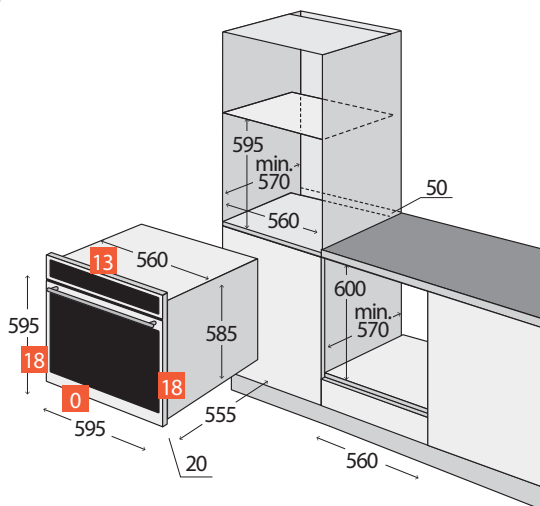

Fig. 5
- The unit should be installed in standardised kitchen furniture designed for built-in appliances or in properly adapted furniture of dimensions according to Fig. 5.
- The appliance may be located either under a kitchen cabinet or in a stand-alone cabinet (Fig. 5).
2. For the sake of efficient air circulation the unit has to be located according to the dimensions on Fig. 5 and the design of the cabinet must enable air flow into its bottom part. The gap behind the rear wall of the built-in appliance must be at least 50 mm.